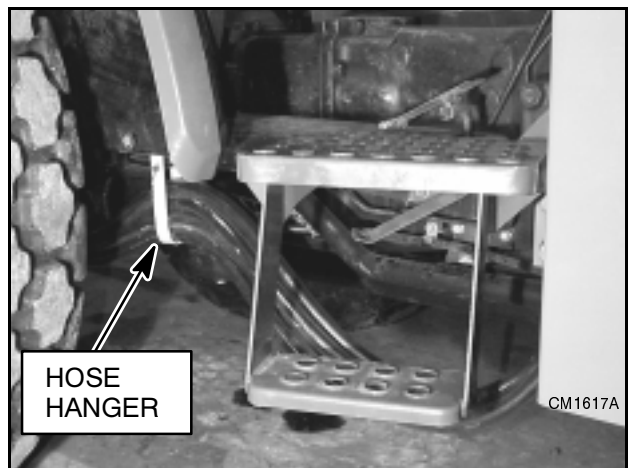

Figure 10. Hose Hanger Installed
1. Install hose hanger bracket beneath right side of the operator's platform as shown in Figure 10. Use cap screw, flat washers, and lock nut as shown in Figure 11.
2. Route hoses through support and secure with lock pin (15).